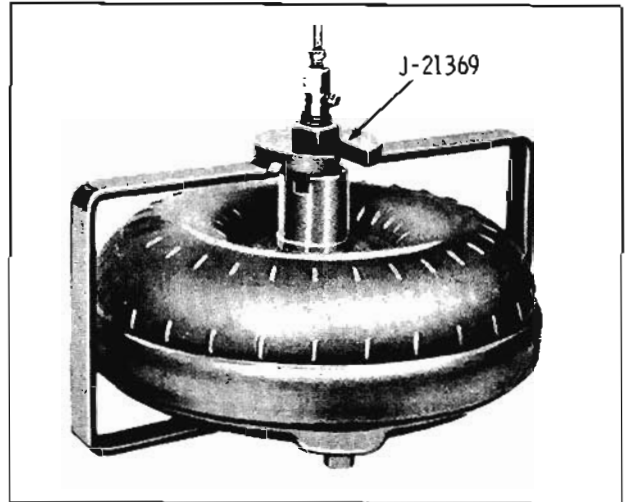

Fig. 6-480 Installing Tool J-21369
- a. Install available Tool J-21369 and tighten. (Fig. 6-480)